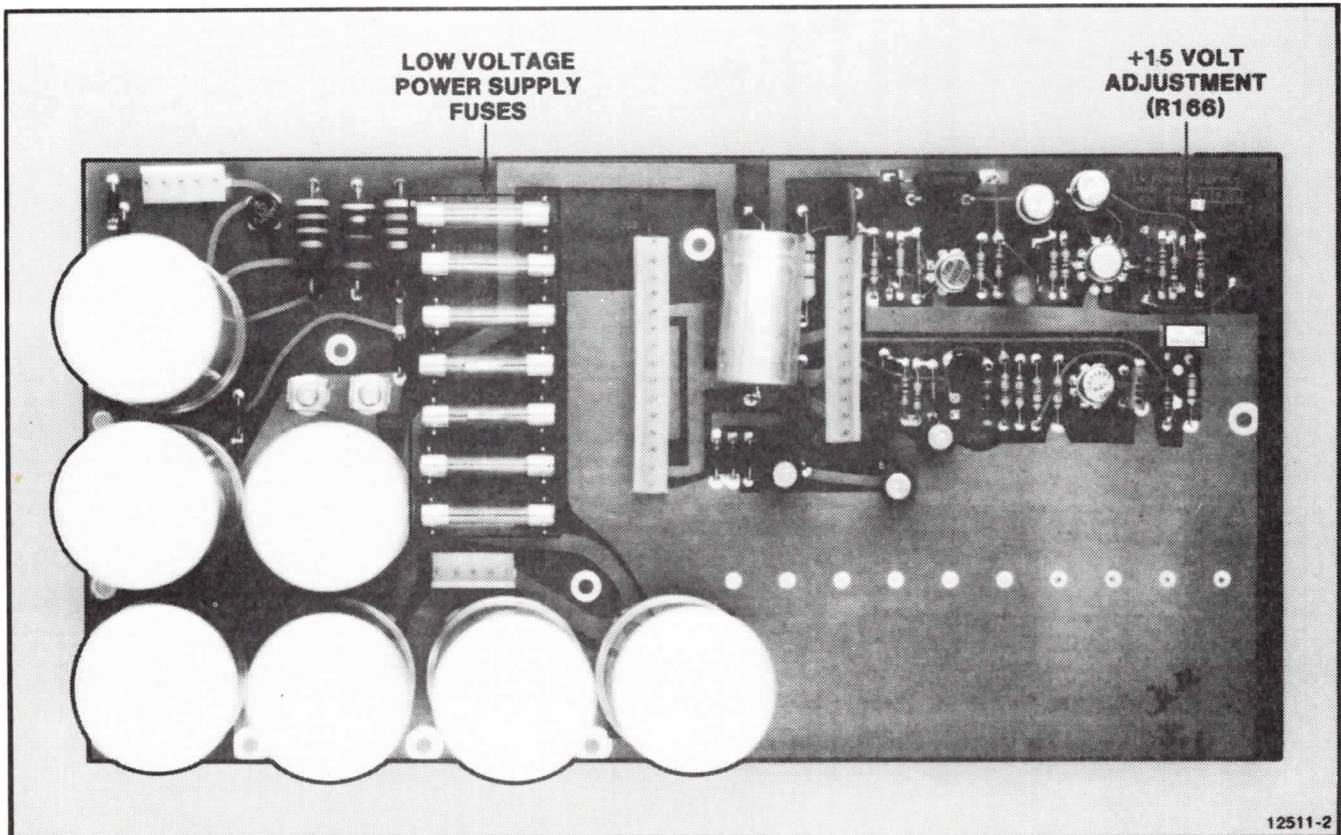

**Figure 10-12. Deflection Amplifier Board Straps, Test Points, and Adjustments.**
12. On the Deflection Amplifier board, set the ANTI-BURN jumper to the IN (lower) position. Check the J311 and J314 straps for proper installation. Make sure that the J199 4-pin jumper is set to the FAST position. And make sure that the Hold mode jumper is set to the IN position (toward the rear). See Figure 10-12 for a diagram of the Deflection Amplifier board describing the straps, test points, and adjustments.